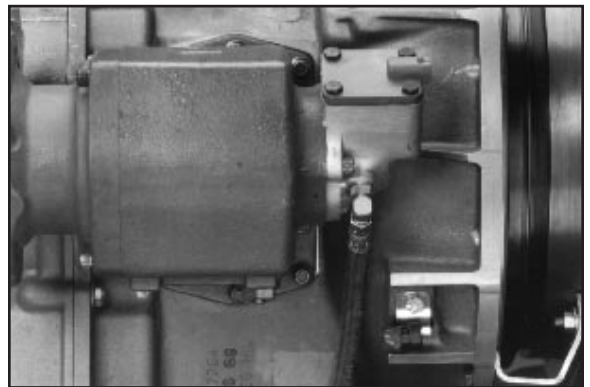

Fig. 10
10. Securely attach the high pressure line to the valve (**Fig. 10**).